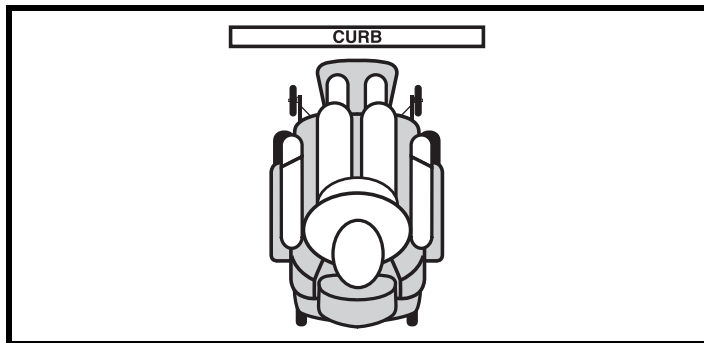

Figure 2. Correct Curb Approach
1. Approach the curb or obstacle slowly, and make sure the power chair is traveling perpendicular to the obstacle. See figure 2.